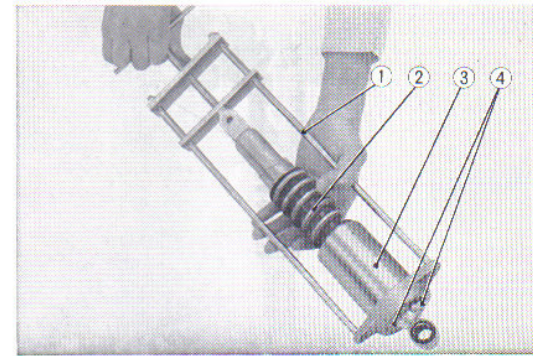

Fig. 4.68 Disassembling the rear cushion
2. Compress the rear cushion upper case by using a special tool and remove the rear cushion seat, lift off the upper case and then remove the cushion spring. (Fig. 4.68)